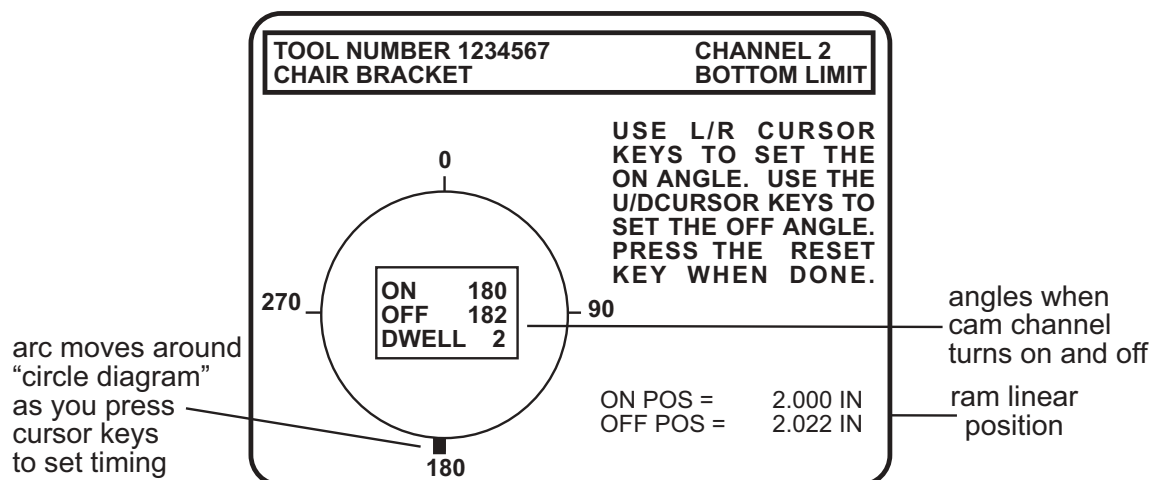

Figure 5-10. Illustrating programmed channel 1 "Bottom Limit"
2. You see a display (similar to Fig. 5-10, Pg. 93) which includes information about the tool and cam channel. Notice also the circle diagram on the display.